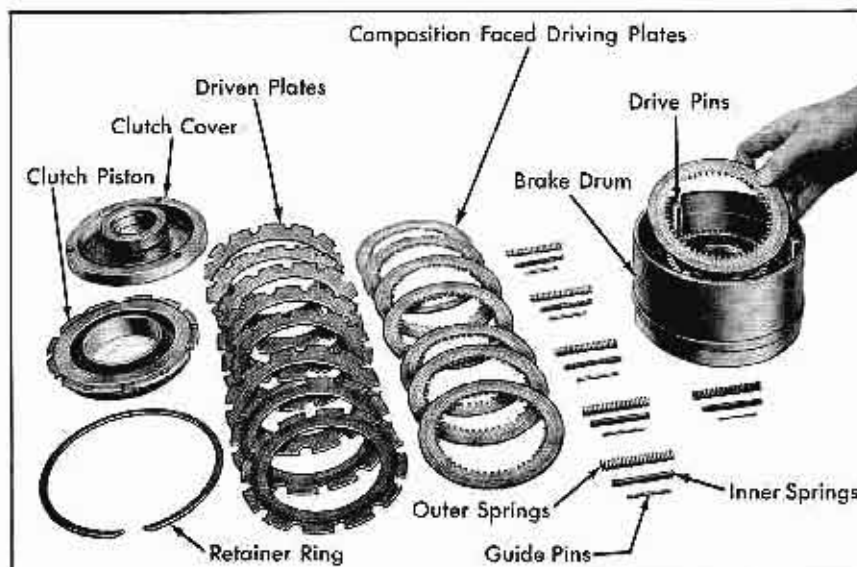

Fig. 14-33 Rear Unit Disassembled
6. Remove eight composition and eight steel clutch plates, Fig. 14-33.